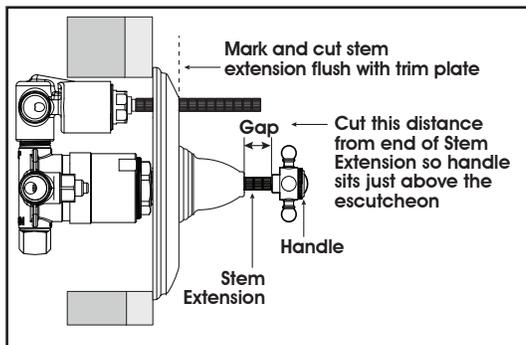

FIG. 4c
3. Place handle on (center) stem and measure excess between escutcheon and handle base. Remove handle and cut excess from end of stem using cut marks provided. For the (diverter) stem extension mark and cut flush with trim plate. FIG 4c.